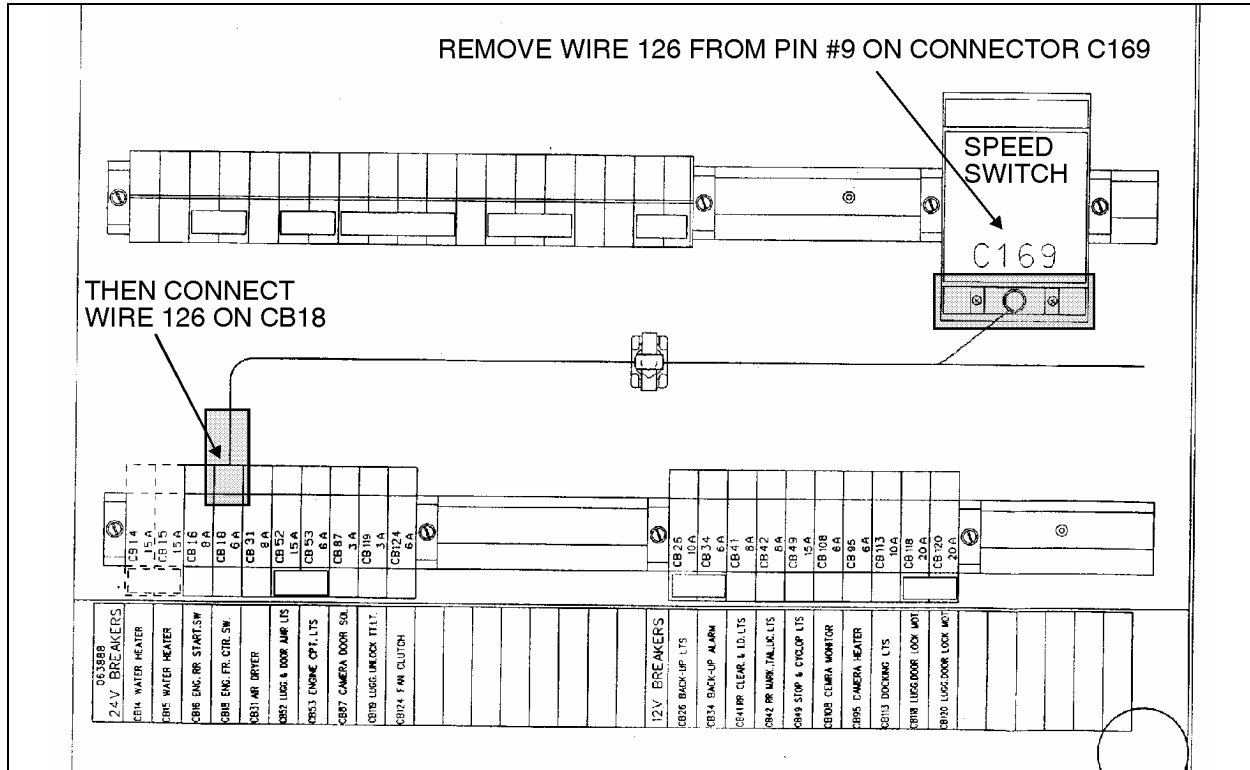

FIGURE 1
1. In rear electrical compartment (L.H. side of vehicle), locate speed switch (Fig. 1).
5. Connect other extremity of wire to CB18 circuit breaker (Fig. 1), on the same side as wire 85B.